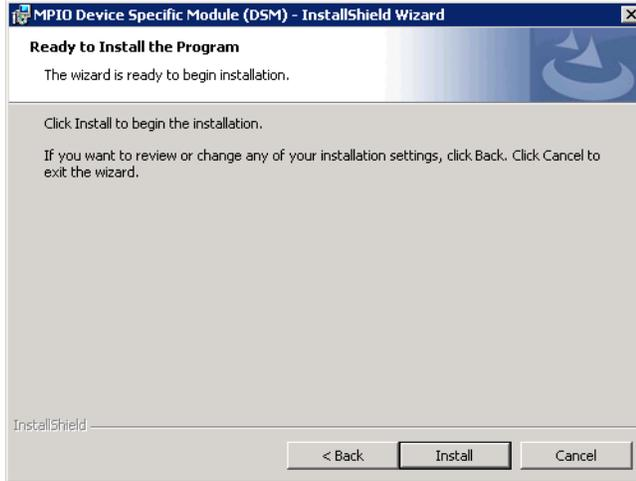

Figure 4-13 MPIIO Device Specific Driver - Installation begin
2. Click **Install** to start with the installation process, as shown in Figure 4-13.